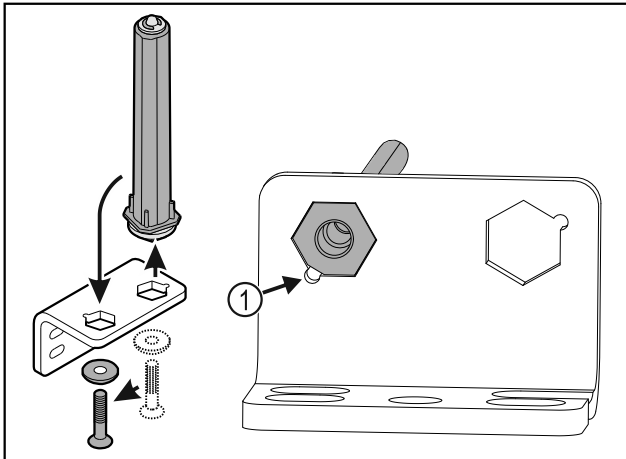

Fig. 33
- ▶ Make sure the pin chamfer Fig. 33 (1) faces the round hole when you put it in.